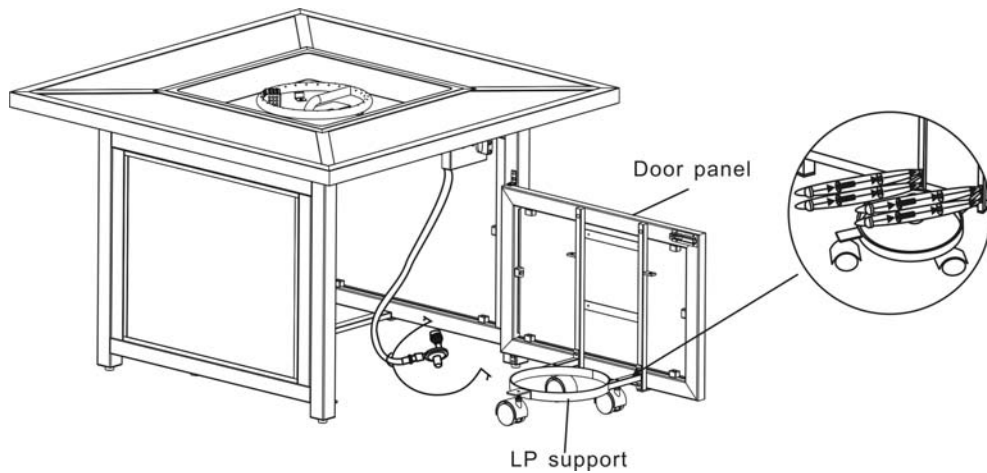

Figure 7
7. Attach the LP support to the door panel by using four 1/4"x15 mm bolts and Ø6.5x1.0 mm washers as shown in Figure 7. **Do not over tighten.**